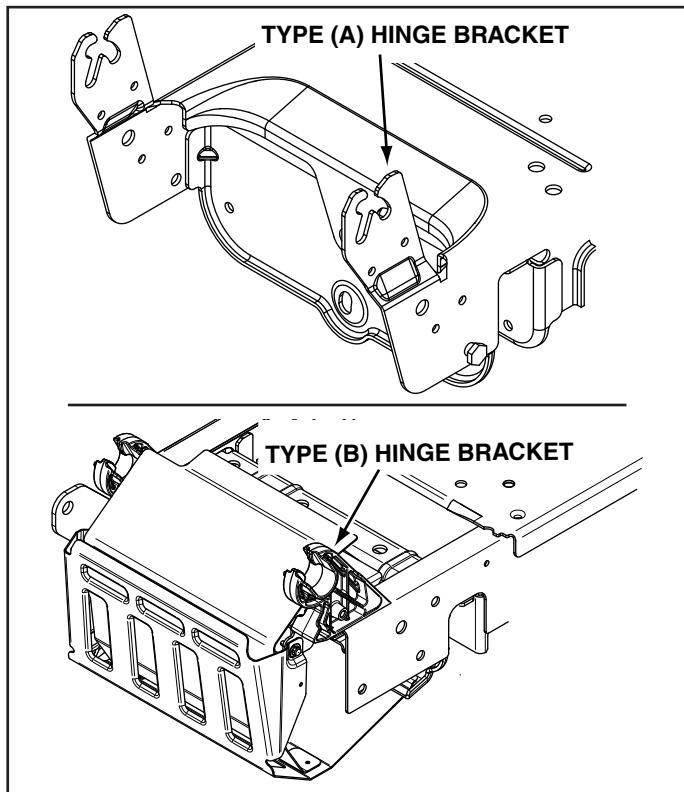

FIGURE 3
- Compare the hinge brackets at the front of your tractor to figure 3. If your hinge brackets resemble type A, proceed to step 5 below. If your hinge brackets resemble type B, proceed to step 7 on page 4.